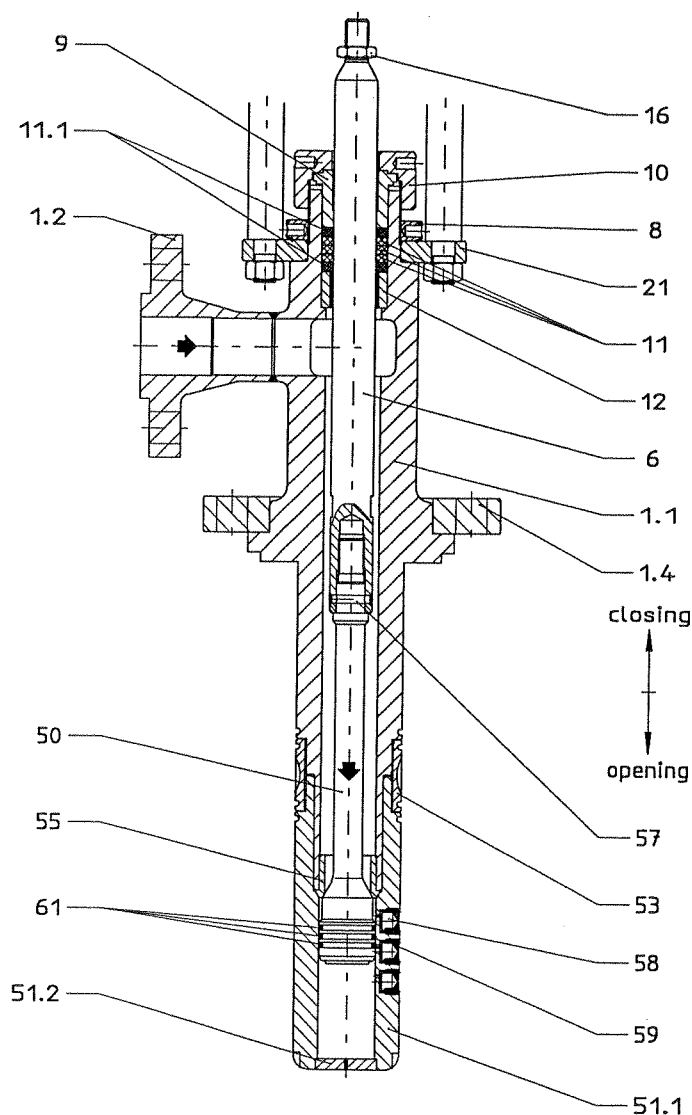

figure 1: desuperheater, type „DKV“
Observe the closing direction! (see figure 1)
- Lock sprayhead (POS.51.1, SW 65) and unscrew adjusting nut (pos.56) with a hooked wrench (DIN1810 - Ø 68 - 75) by turning anti-clockwise (direction closing, figure 1)
- Remove union nut (POS.10), packing disk (POS.53) and packing follower (pos.9)